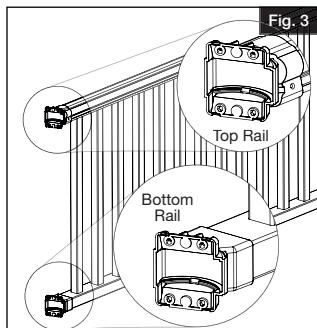

Fig. 3
- 3** Cut railing to desired length. Place bracket on each end of top and bottom rails (Fig. 3). Fasten bottom bracket to base with one #10 x 1" square drive screw.